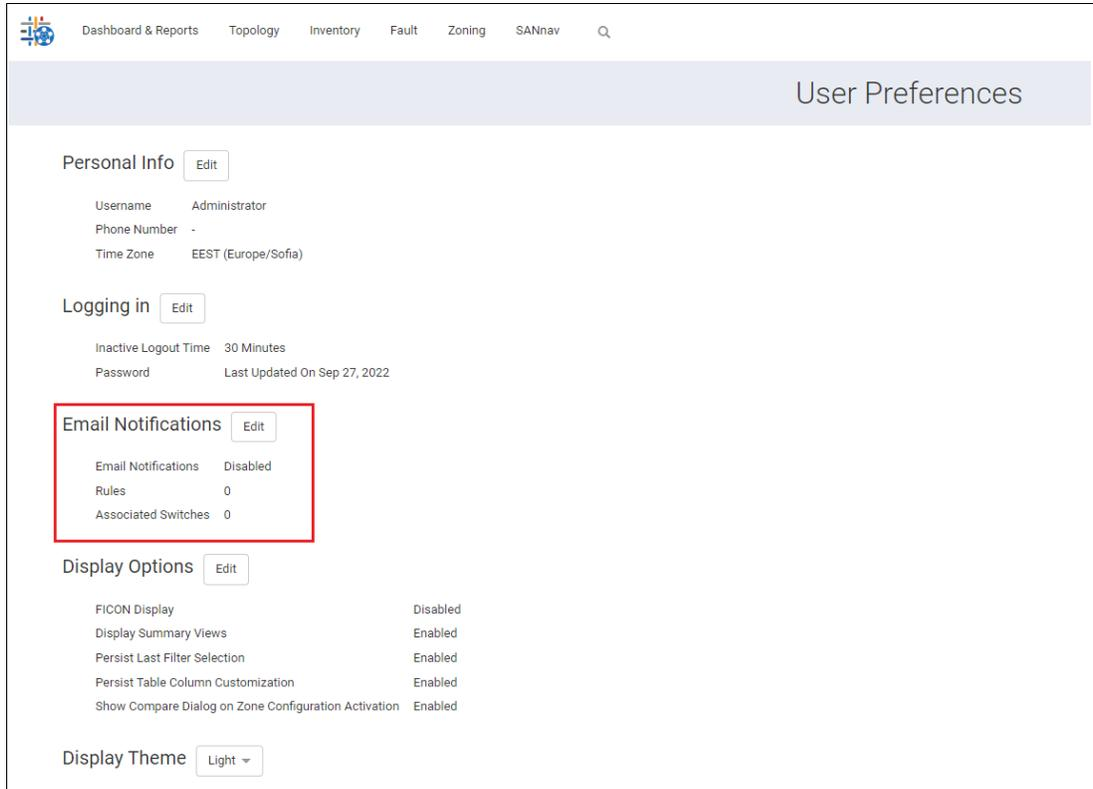

Figure 5-150 Email notifications
2. Click **Edit** next to Email Notifications (Figure 5-150).